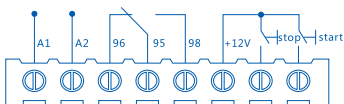
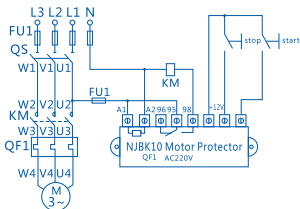

Figure 4 Terminal Definition
Figure 5 Wiring Diagram of the Protector with Control Power Supply Voltage of AC220V
3.2 Terminal definition: see Figure 4; wiring diagram: see Figure 5~ Figure 6.